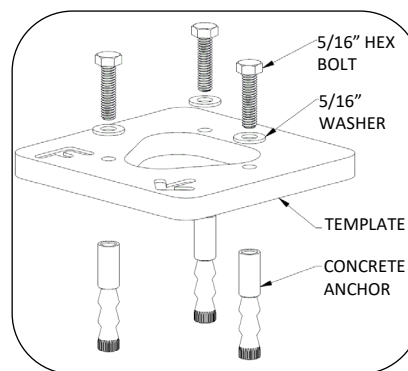

Fig. 2 – Assembly template and anchors
4. Attach anchors to base plate template as shown in Fig. 2.